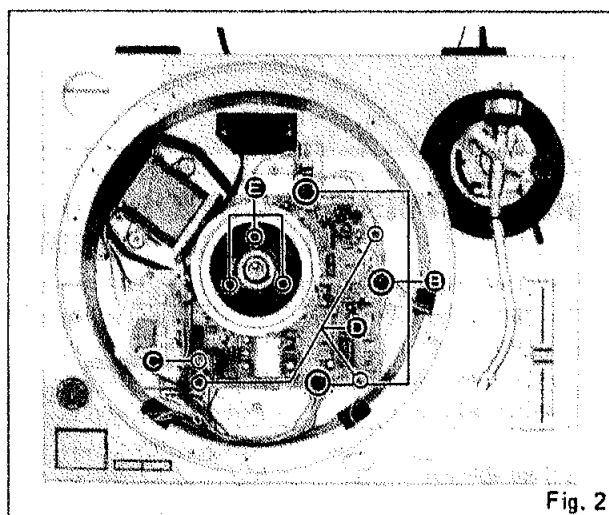

Fig. 2
4. Remove 3 connectors **B** and 2 read wires **C** from power transformer as shown in Fig. 2.
5. Remove 3 screws **D** of the drive circuit board and 3 screws **E** of the stater frame cover as shown in Fig. 2.